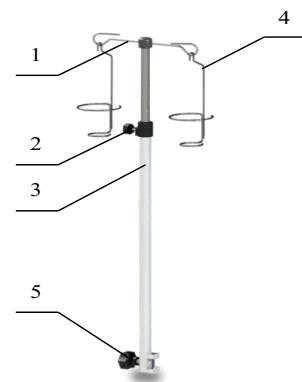

Figure 2. Infusion pole.
2. **Infusion pole** (infusion stand) (Figure 2). Made of stainless steel, adjustable in height, equipped with two hooks 1 and two standard bottle holders 4. Equipped with a built-in mounting clamp 5 for mounting on the guide rails of the table.
The pole height is adjusted manually using lock 2 (Figure 2). Adjust the height of the pole, and then clamp the lock in the adjusted position.